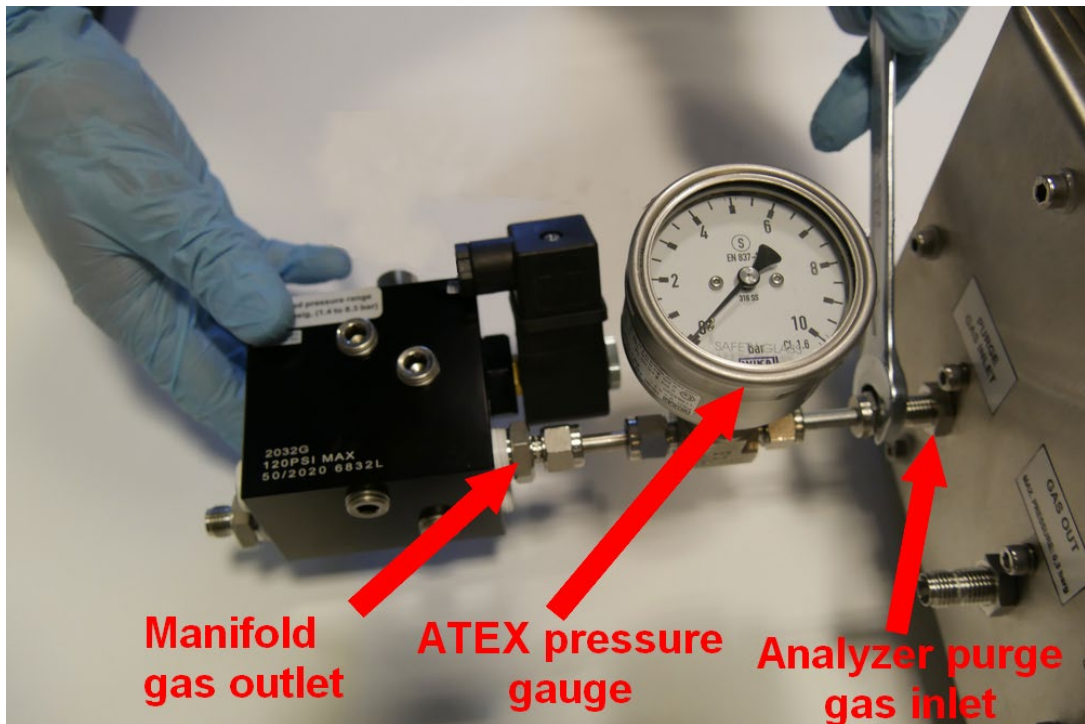

Figure 136. Manifold installation.
2. Connect a 6 mm gas tube (10) between the outlet of the manifold block and the purge inlet of the analyzer housing (1). Connect the ATEX pressure gauge (17) included in the kit between the manifold and the analyzer as shown in **Figure 136**. Use 14mm wrench.